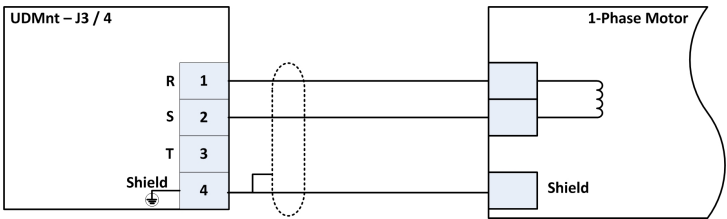
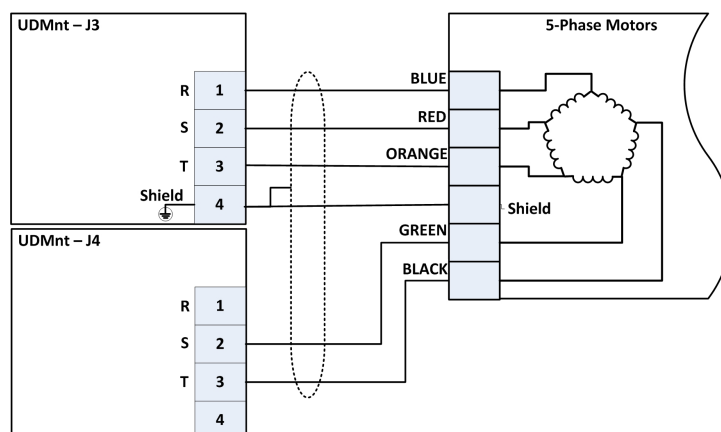

Figure 4-6. Single-Phase Motors (DC brush, Voice coil) Connections
Figure 4-9. Five-Phase Step Motor Connections (example of an Oriental Motor)
- > Single-phase (DC brush, moving coil), see Figure 4-6.
- > Five-phase (step motor. Consult company), see Figure 4-9.
1. Connect the motors to J3 J4 according to Figure 4-6 through Figure 4-9.